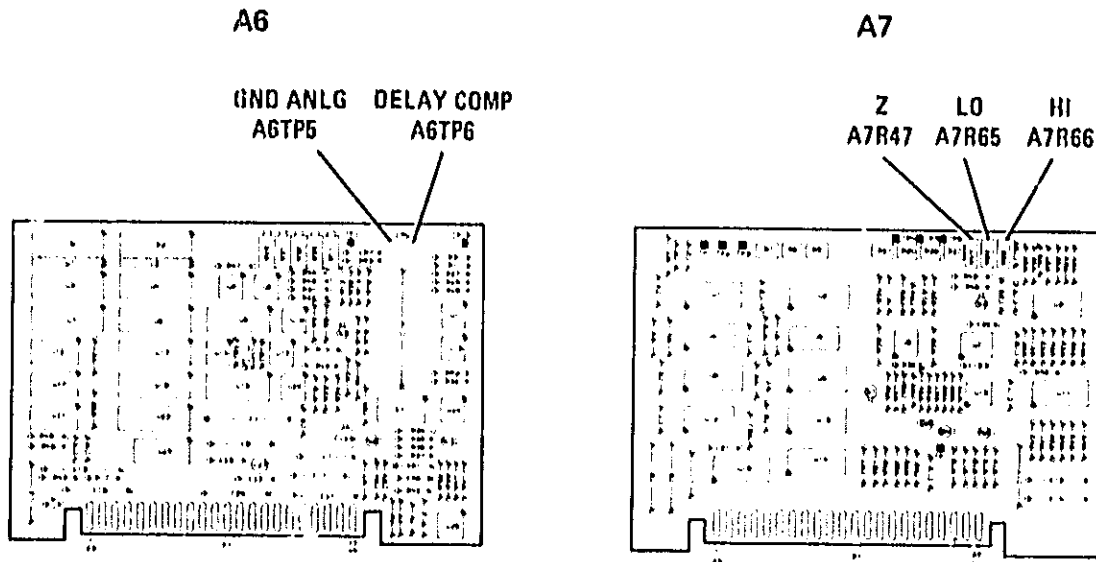

Figure 5-13. Delay Compensation Adjustment Locations
5. Adjust A7R47 (Z) for the same reading at A6TP6 as was obtained in step 3. Refer to Figure 5-13 for the adjustment location. Remove the DVM test leads.